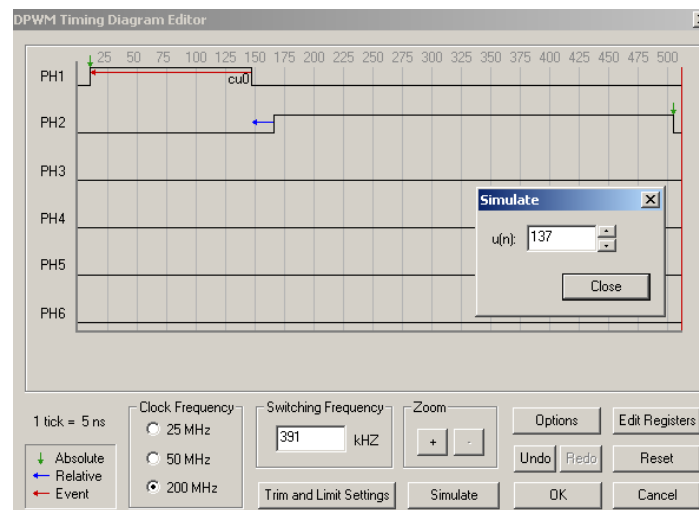

Figure 11. DPWM Timing Diagram Editor—Timing Simulator
- Click the **Simulate** button to display the Simulate Window (see Figure 11). Use the arrows to increase and decrease the value of $U(n)$. Notice that Phase 1's edge should modulate with its absolute edge starting at 10 ticks. Phase 2 should also modulate. However, its rising edge starts relative to Phase 1's falling edge.